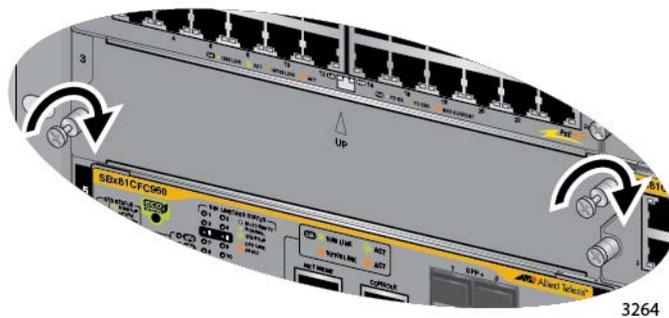

Figure 91. Tightening the Thumbscrews on a Blank Slot Cover
2. Finger tighten the two thumbscrews to attach the blank panel to the chassis, as shown in Figure 91.